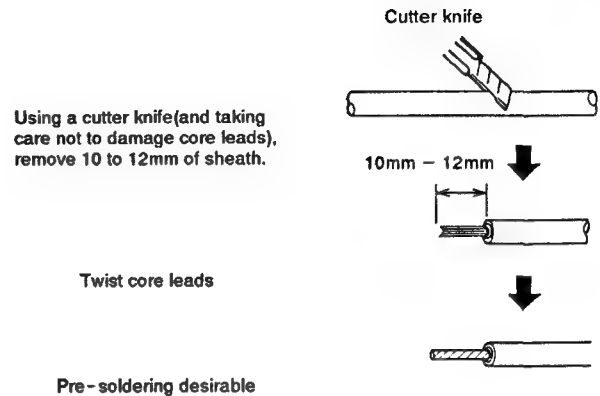

Fig. 5-3 Anode cable sheath peeling
- The method used to peel the sheath back is illustrated in Fig. 5-3. Use a cutter knife, taking care not to damage the core leads.